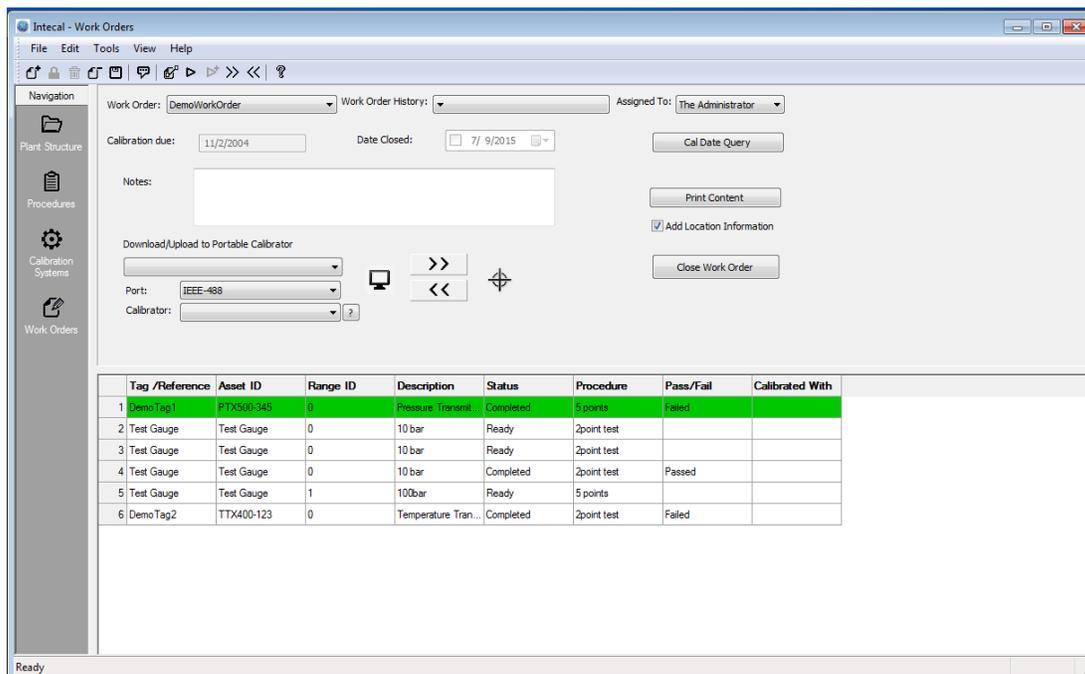

Figure 7-3: Work Order - Manual Data Entry
- Page 2 shows the calibration results in a graph (Figure 7-3).